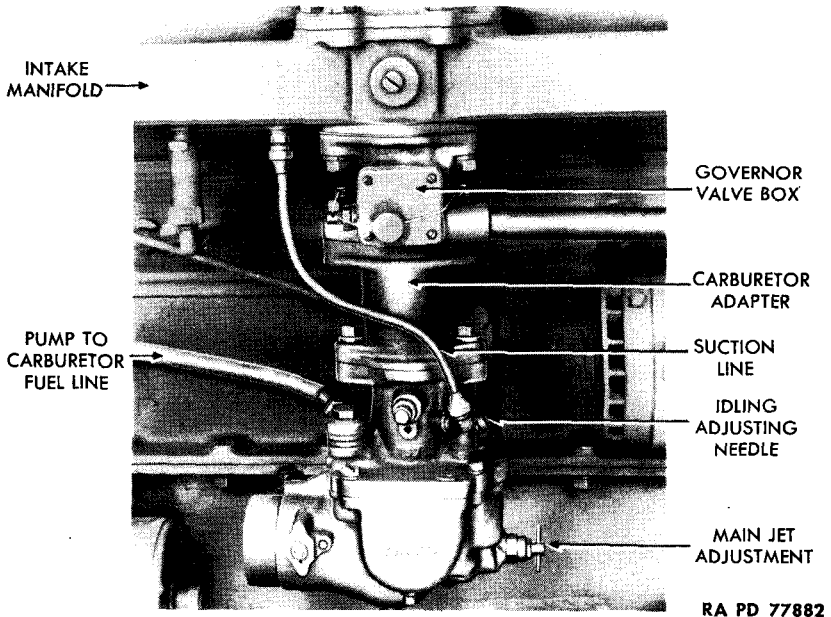
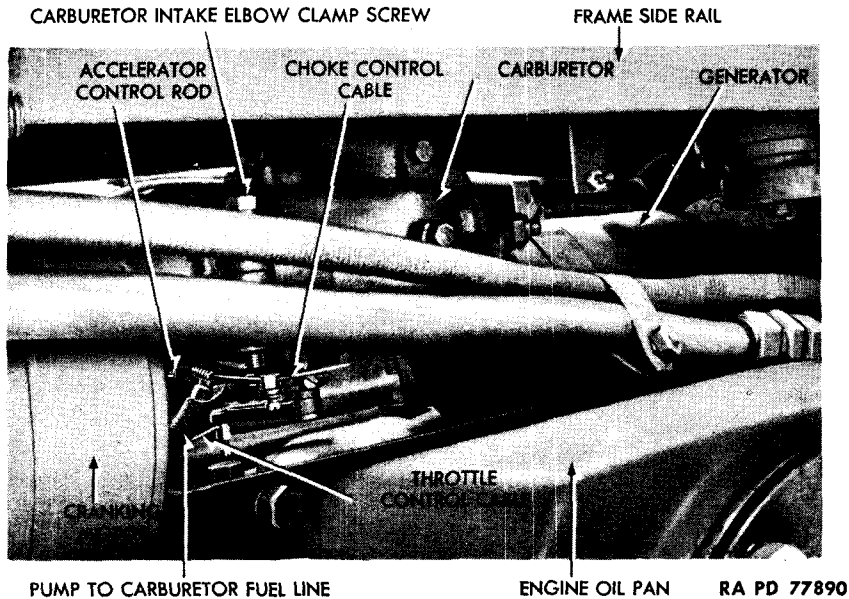

Figure 29 — Carburetor
Figure 30 - Carburetor Connections
(1) DESCRIPTION (fig. 29). The carburetor is located on right-hand side of engine between engine and frame. It can be reached from under the truck or through opening obtained by removing splash shield from under right front fender. It is the updraft, single-venturi type. Its function is to supply the proper mixture of fuel and air to the combustion chambers through the intake manifold.
(2) TABULATED DATA.
(3) **ADJUST IDLING MIXTURE** (fig. 29). Adjust throttle stop screw (step (2) above). Leave splash shield off and engine running. Turn in idling adjusting needle near top of carburetor until engine slows. Back out needle until engine attains maximum speed for throttle setting. Set throttle stop screw so that engine idles at 350 revolutions per minute. Stop engine, and install splash shield unless further carburetor adjustment is to be made.
(4) **ADJUST INTERMEDIATE AND HIGH SPEED MIXTURE** (fig. 29). Start engine, and set throttle so that tachometer registers 550 revolutions per minute. Remove splash shield from under right-hand front fender. Wait until intake manifold is at least warm to the hand, then turn main jet adjustment on under side of carburetor in (clockwise) until engine slows down. Open adjustment (turn counterclockwise) until engine slows down. Turn adjustment to a position halfway between these two extremes. Stop engine, and install splash shield.
(1) **DISCONNECT CONTROLS FROM CARBURETOR** (fig. 30). Remove splash shield from under right-hand front fender. Disconnect choke control cable, throttle control cable, and accelerator control rod from carburetor.
(2) **DISCONNECT AIR CLEANER FROM CARBURETOR** (fig. 30). From under truck, loosen carburetor intake elbow clamp screw nut. Disengage elbow from carburetor.
(3) **DISCONNECT LINES FROM CARBURETOR** (fig. 30). Working through splash shield opening, disconnect pump to carburetor fuel line from its fitting on carburetor. Disconnect carburetor to manifold suction line (fig. 29) from its fitting on carburetor.
(4) **DETACH CARBURETOR** (fig. 29). Working through splash shield opening, remove the two cap screws and lock washers which attach carburetor to carburetor adapter. Lift carburetor and gasket from adapter.
(1) **ATTACH CARBURETOR** (fig. 29). Place gasket and carburetor in position on carburetor adapter, and install the two lock washers and cap screws which hold carburetor to adapter.
(2) **CONNECT LINES TO CARBURETOR** (figs. 29 and 30). Connect
(3) **CONNECT CONTROLS TO CARBURETOR** (fig. 30). Push in choke control on dash, open carburetor air shutter or choke valve, and attach choke control cable to air shutter lever. Attach throttle control cable to carburetor throttle lever. Be sure throttle is closed when throttle control on dash is in. Connect accelerator control rod to throttle lever.
(4) **CONNECT AIR CLEANER** (fig. 30). Position carburetor intake elbow on rear of carburetor, and tighten intake elbow clamp screw nut.